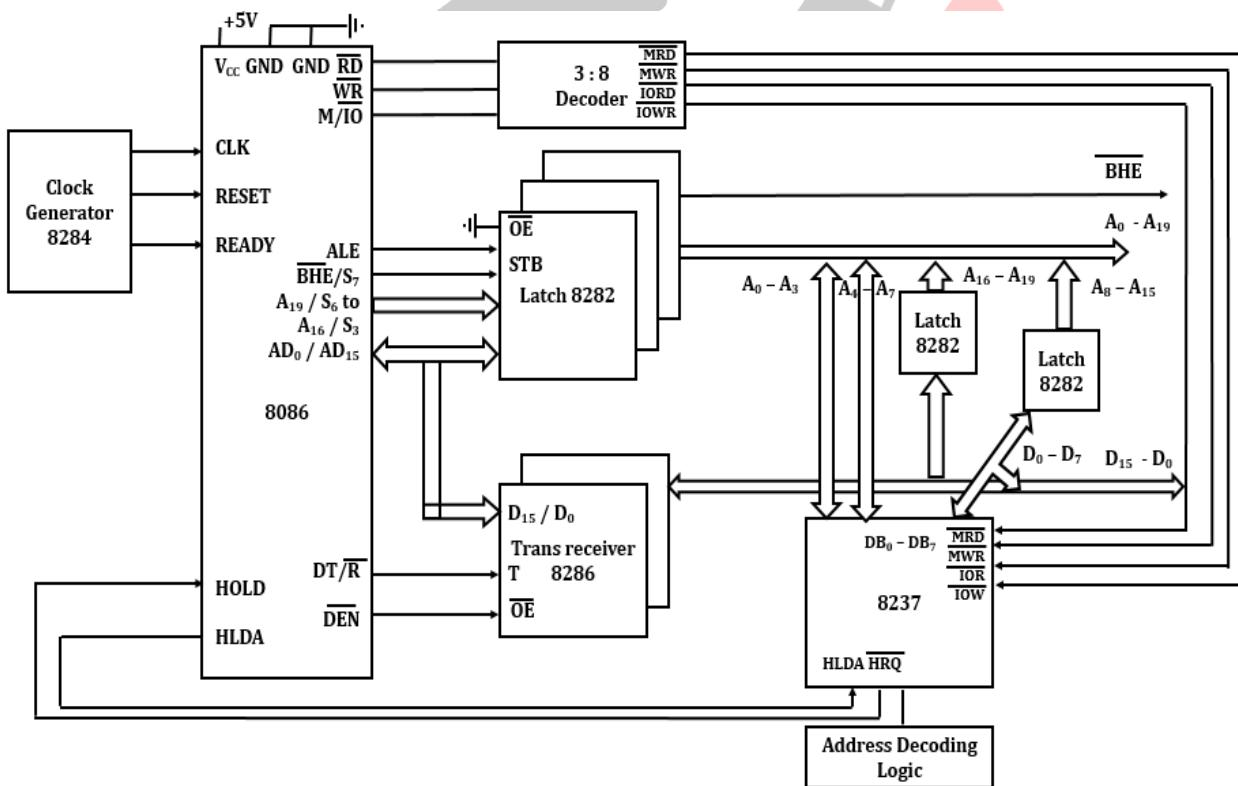

Figure 3.18: Interfacing of 8237 with 8086.
8. Figure 3.18 shows Interfacing of 8237 with 8086.